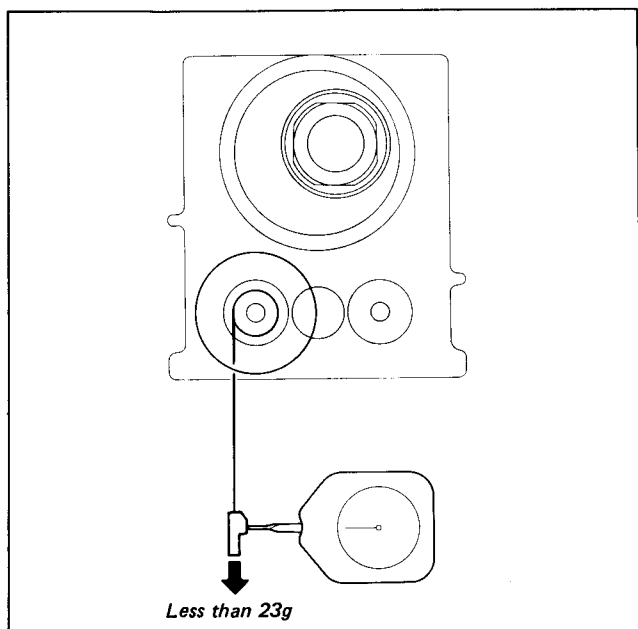

Fig. 1-62
- 3) Pull the dial tension gauge (Ref. No. J-6) toward the arrow and check that the value satisfies the required value. (See Fig. 1-62 and 63.)